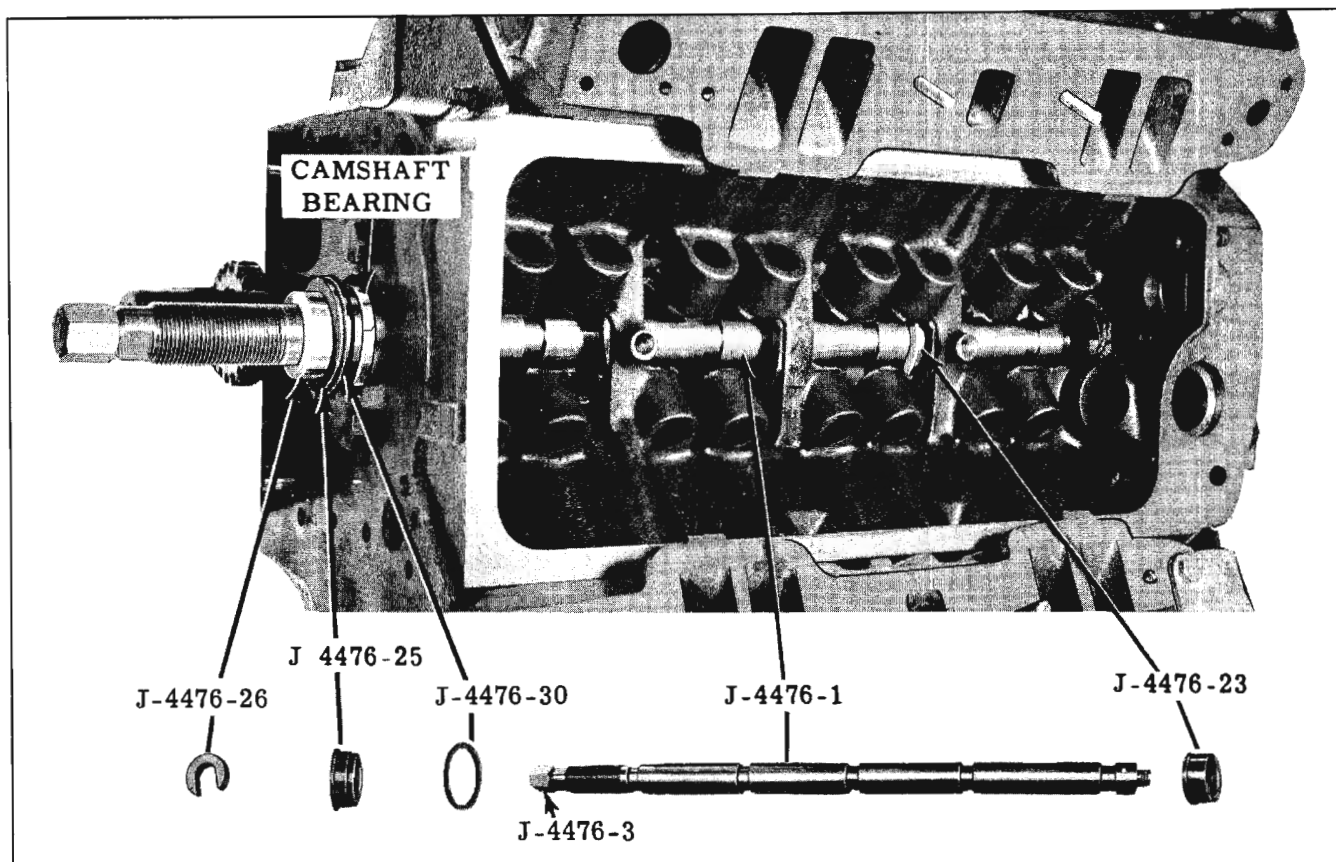

Fig. 8-44 Installing No. 1 Camshaft Bearing
- a. Assemble tools as shown in Fig. 8-44.